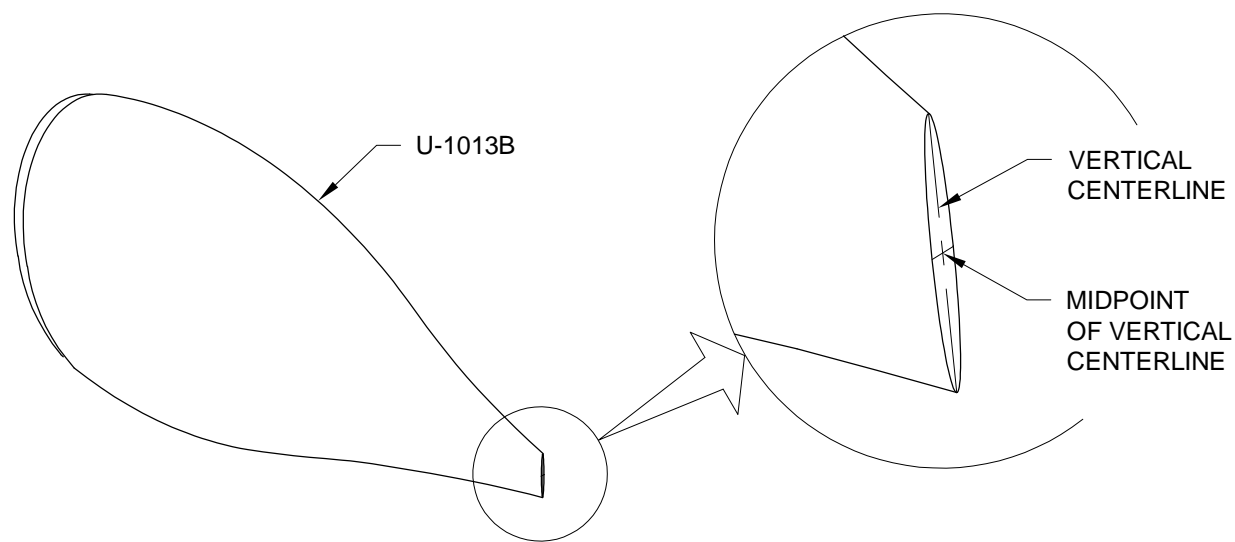

FIGURE 2: DRAW REFERENCE LINES AT AFT END OF FAIRING
Step 3: Draw a vertical centerline on the U-1013B Wheel Fairing Rear as shown in Figure 2. Place a mark at the midpoint of the vertical centerline as shown in Figure 2.